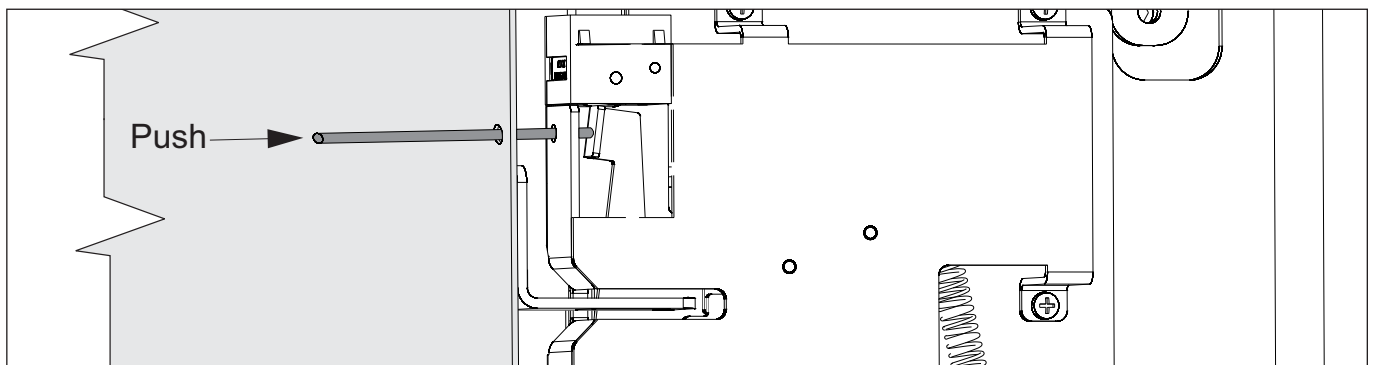

Fig. 9B
a) With panel door closed, insert a pin (dia. 4mm. max.) in the panel door hole and press until it stops (see fig.9B).